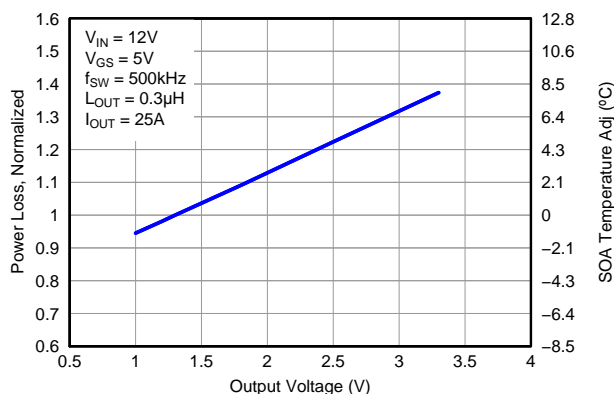

Figure 8. Normalized Power Loss vs. Output Voltage
- Normalized Power Loss for output voltage ≈ 0.95 (Figure 8)
- SOA adjustment for output voltage $\approx -1.05^\circ\text{C}$ (Figure 8)